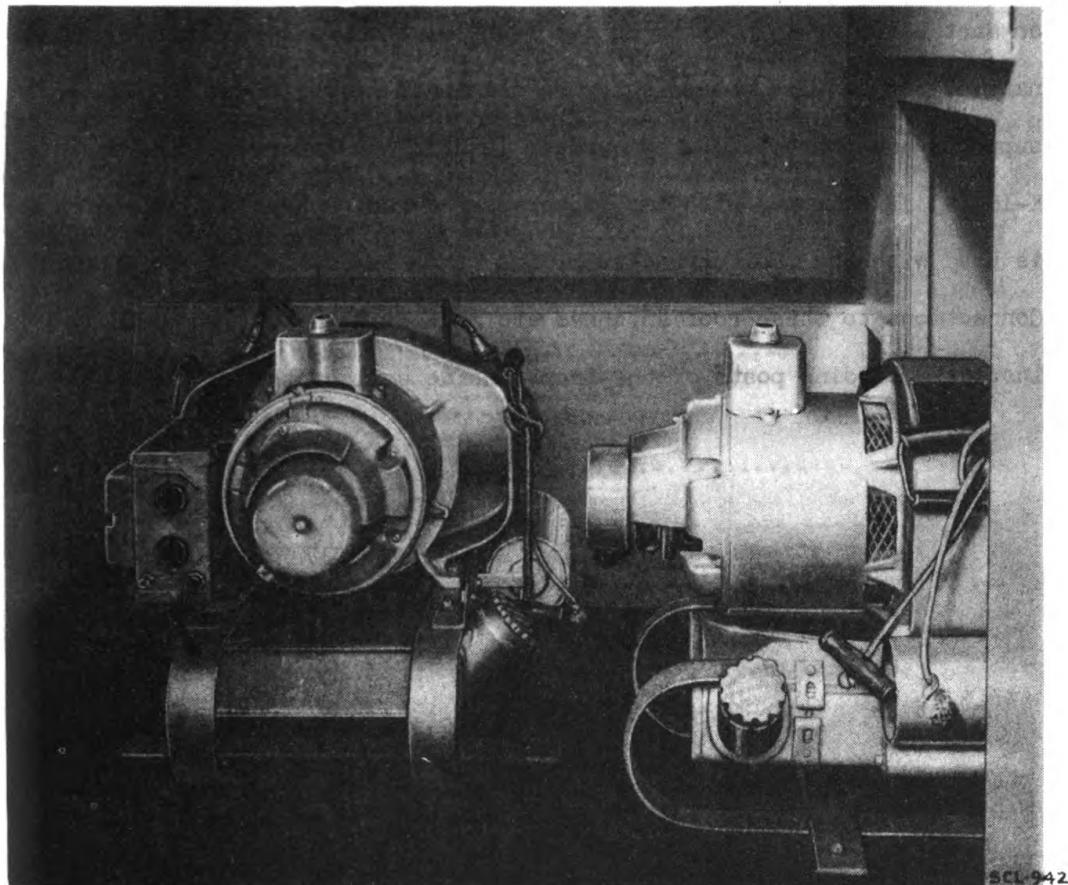

Figure 7. - Method of Mounting Power Units PE-75-(*) in the rear compartment of Trailer K-19-(*).
d. Power Unit PE-75-(*). - Two Power Units PE-75-(*) are provided and are carried in the rear compartment of the trailer. (See Fig. 7.) They supply a-c power for Trailer K-19-(*) when commercial power is not available. Normally only one of these units is required; however, in extremely cold weather when it is desired to operate both electric heaters as well as a-c equipment in the trailer, it is necessary to use both units. Full information concerning Power Unit PE-75-(*) is contained in TM 11-900.